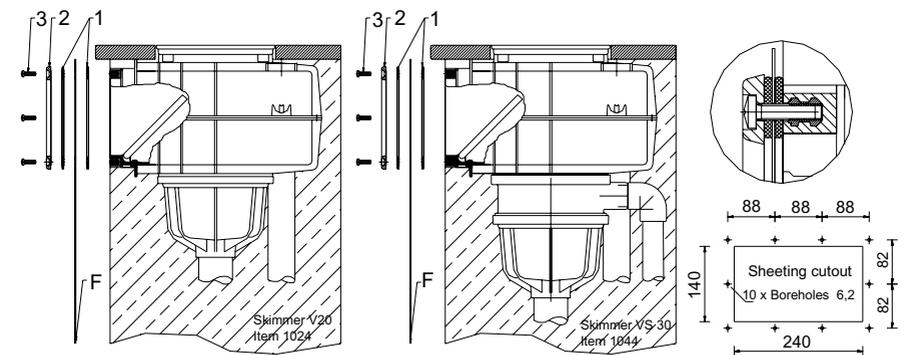

Fig. 19
3.4 Installing V20 and VS30 skimmers in concrete pools with liners (Fig 19)